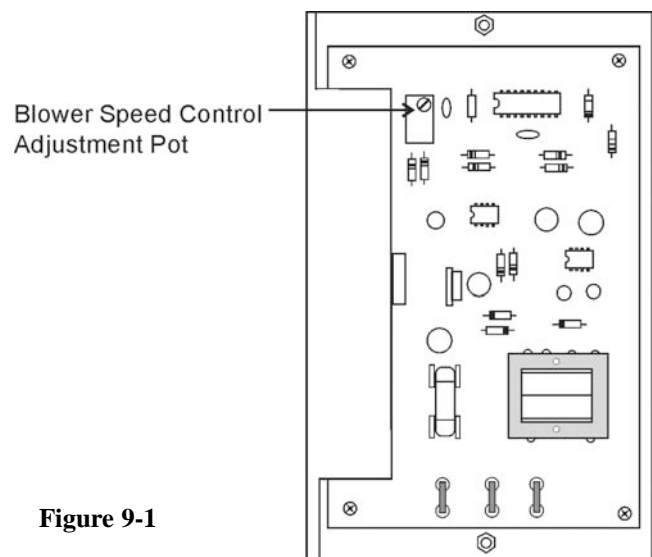

Figure 9-1
4. Open the hinged control panel by removing the screw on the top and bottom of the control panel and swinging the panel door open. Locate the blower motor circuit board. (Figure 9-1 & 9-2) Using a true RMS voltmeter, measure and record the voltage drop across the white and black wires leading to the terminal strip. (Figure 9-1) The blower speed control adjustment pot is located on the upper left side of the board. Clockwise adjustment of this pot increases voltage supply to the blower motor, counterclockwise adjustment lowers the voltage supply. Adjust it 2-3 volts, up or down, depending upon the airflow required. Retake the airflow measurements.
Blower Speed Control - The blower speed control is accessed from the rear of the control panel by removing the thumbscrew on the exterior top and screw located at the bottom front of the control panel. Swing the control panel door open. The blower speed is adjusted by turning the screw on the variable resistor mounted on the circuit board adjacent to the controller. (Refer to Figure 9-1) Turning the screw clockwise increases air velocity; counterclockwise decreases it.